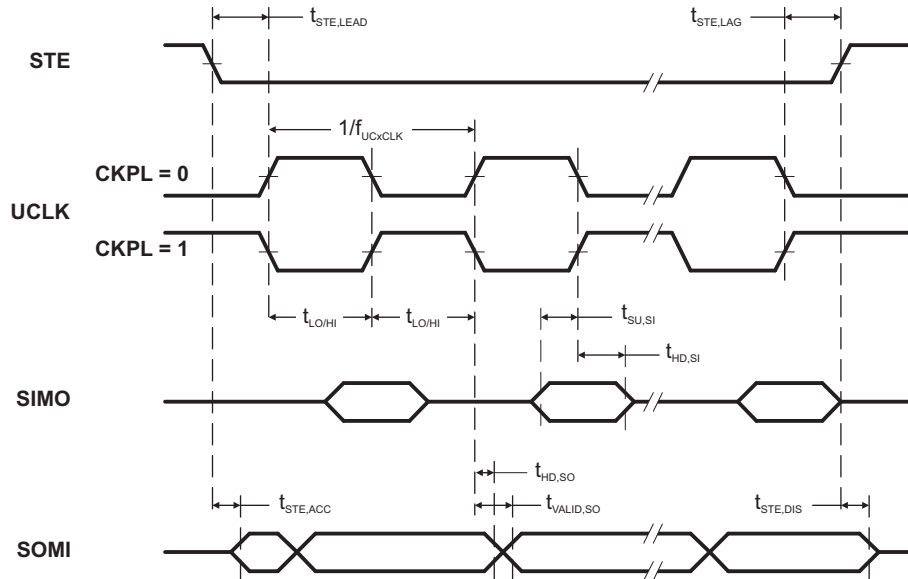
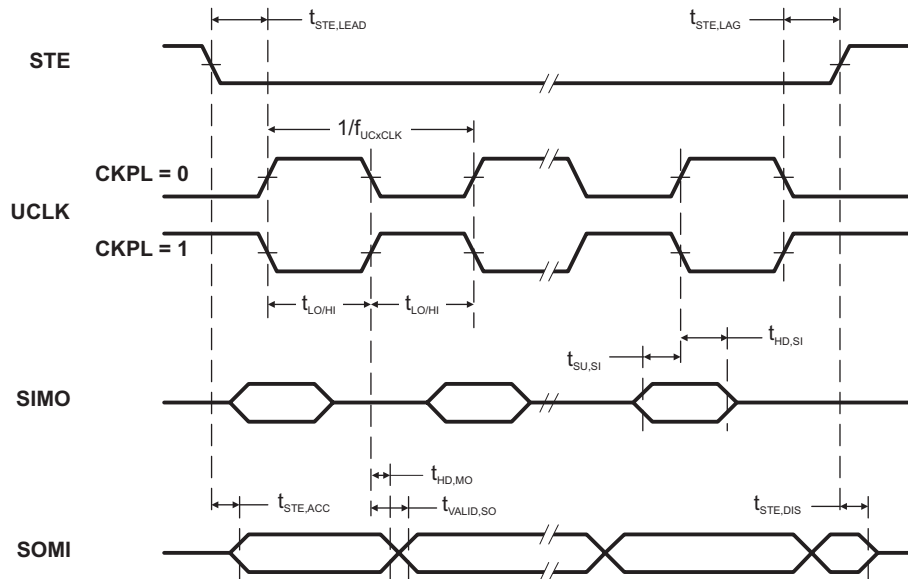

Figure 13. SPI Slave Mode, CKPH = 0
Figure 14. SPI Slave Mode, CKPH = 1
(see Figure 13 and Figure 14)
(2) Specifies the time to drive the next valid data to the SOMI output after the output changing UCLK clock edge. See the timing diagrams in Figure 13 and Figure 14.
(3) Specifies how long data on the SOMI output is valid after the output changing UCLK clock edge. See the timing diagrams in Figure 13 and Figure 14.